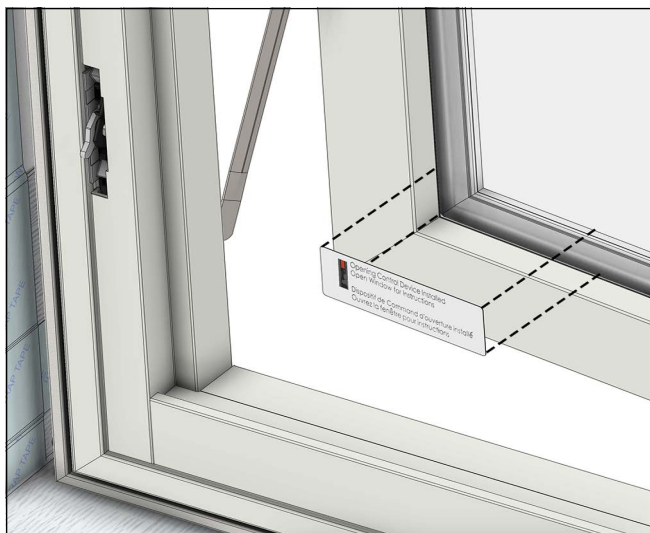

Figure 9 Sash decal
1. Attach the sash decal in the lower corner of the glass near the locking side. See Figure 9.